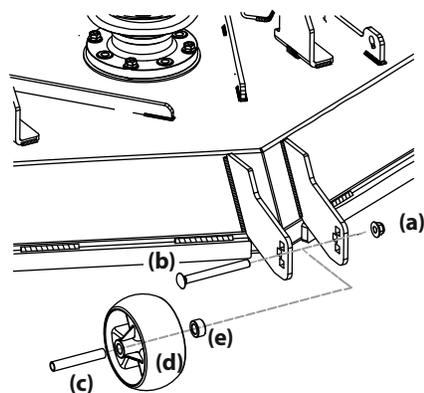

Figure 10
6. Remove the lock nut (a) securing one of the front gauge wheels to the deck. Remove the shoulder screw (b), tube spacer (c) and shoulder spacer (e) to remove the wheel (d). See Figure 10.